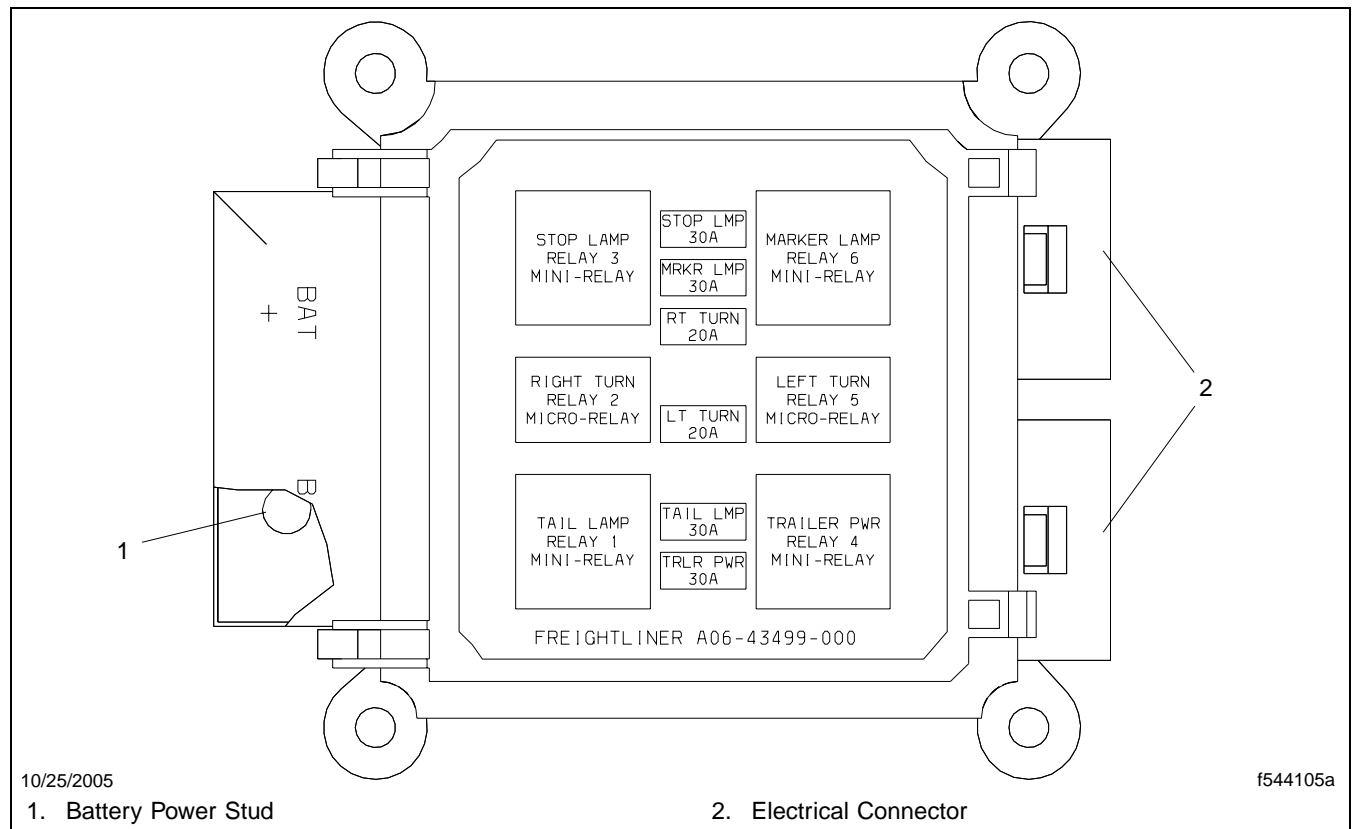

Fig. 1, Trailer PDM Fuse Panel Layout
4. Remove the nut and washer that attach the positive lead to the trailer PDM battery power stud. Then remove the positive lead. See **Fig. 1**.
5. Disconnect the electrical connectors from the trailer PDM. See **Fig. 1**.